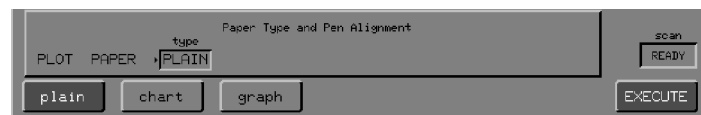

Figure 4-12 The Plot Paper Soft Keys when the Paper Type is plain
*If the current paper type is **plain**, the soft keys shown in Figure 4-12 appear.*